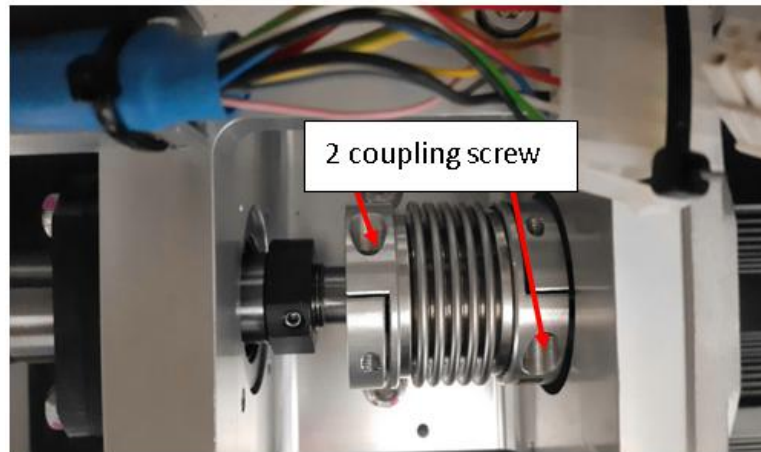
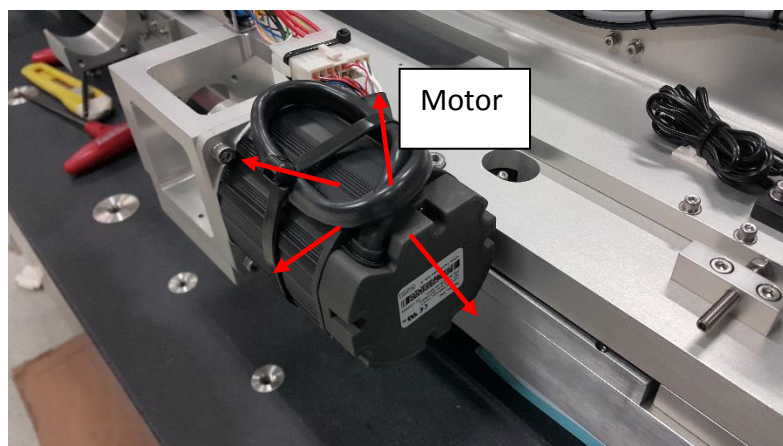

Figure 60 Coupling Screws (MUST BE VISIBLE)
Figure 61 Motor Assembly
53. Assemble & tighten up (2x Screws) coupling and X axis motor (4 x Screws) as shown in the Figure 60 and Figure 61.